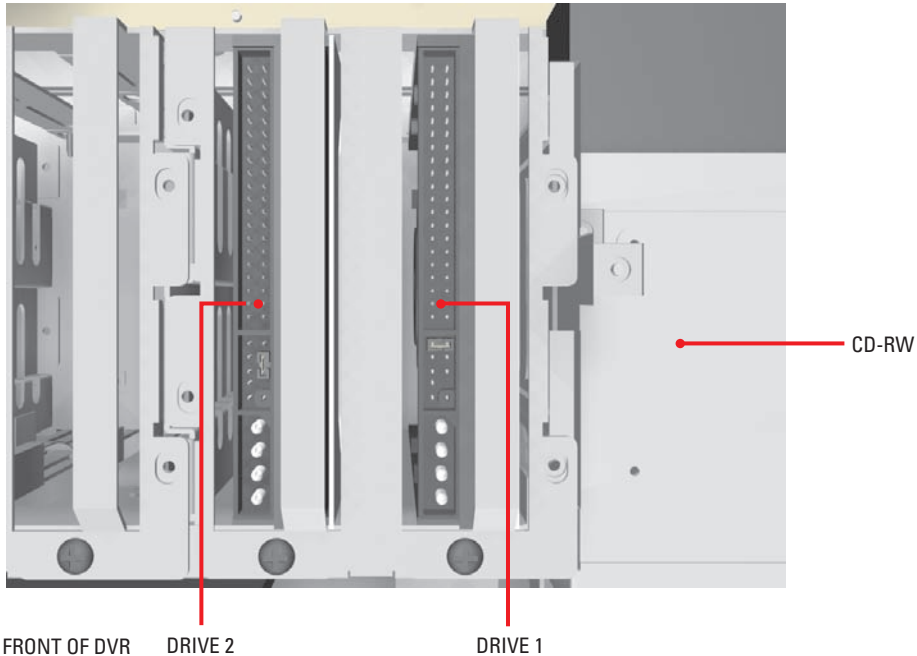

Figure 11. Hard Disk Layout
1. Drives should be installed in order from right to left (as you face the front of the unit), beginning with the slot closest to the CD-RW drive. Refer to Figure 11.